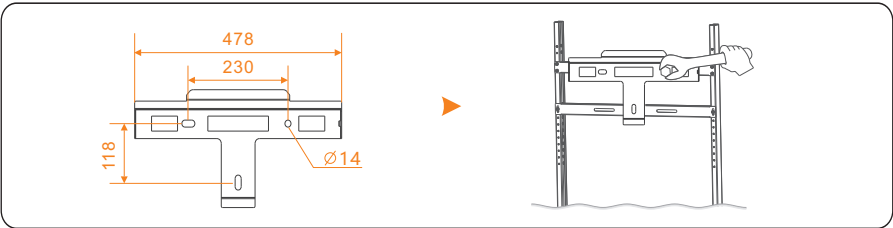

Figure 4.10 Securing a rear panel
**Step 1** Support-mounting the inverter is recommended. Tighten the support and rear panel using M12 bolt and the required torque is 42N.m, as shown in Figure 4.10.